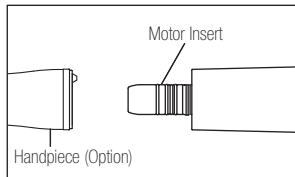

Fig. 2
- 1) Connect the handpiece direct to the motor. (Fig. 2) When connecting an optic handpiece, twist the handpiece until it clicks into position.